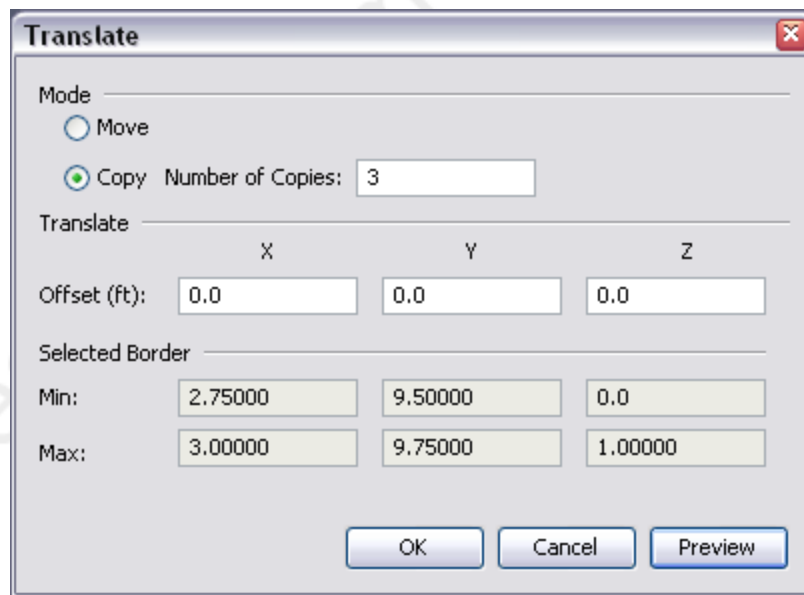

Figure 114. The move dialog
3. This will show the Move dialog, Figure 114.